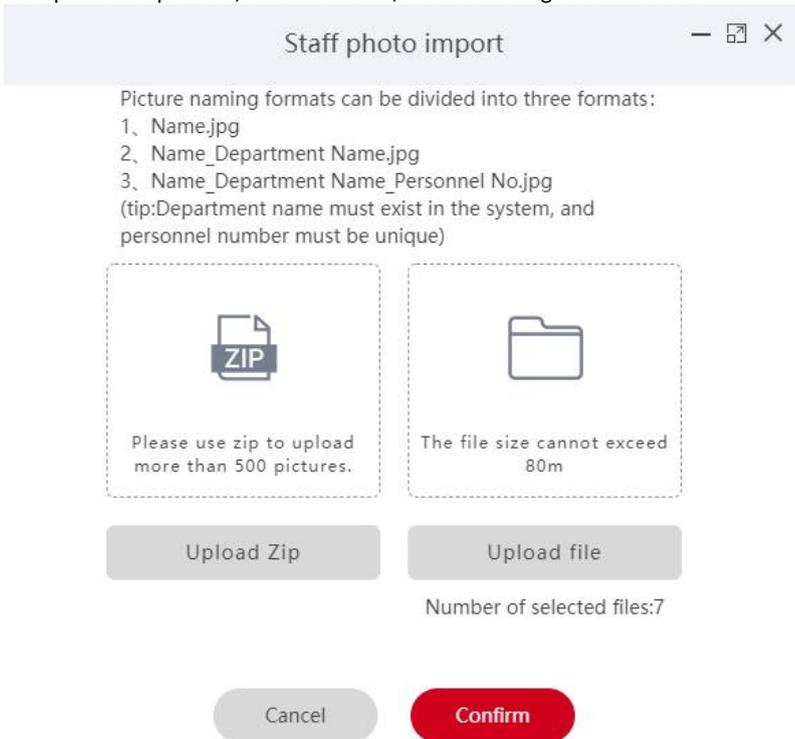

Figure 5-44
Step 3: According to the actual situation, choose the folder or compressed package to store the personnel pictures, click "Confirm", as shown in Figure 5-44 below.